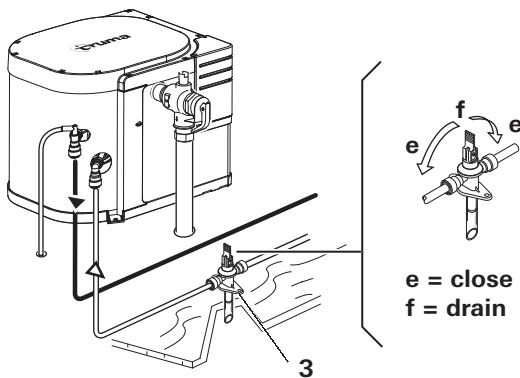

Fig. 2
- Close drain valve (Fig. 2 - 3).
- Open drain valve (Fig. 2 - 3).
- The drain valve (Fig. 2 - 3) and the P&T relief valve (Fig. 2 - 4) are to be operated regularly to remove lime deposits and to ensure that they are not blocked. Frequency: every 6 month.